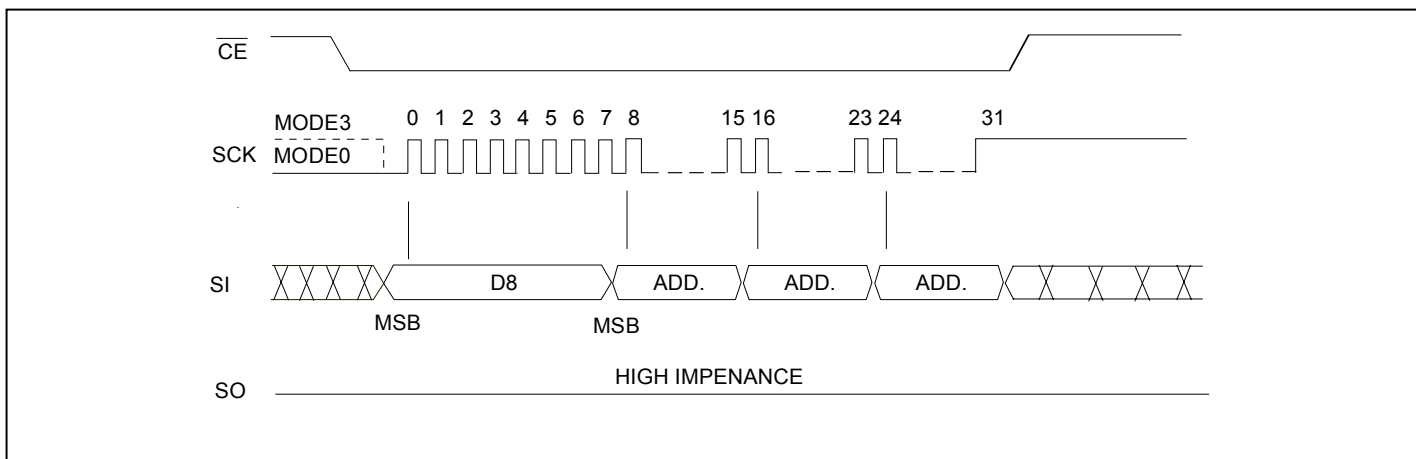

Figure 9: 64K-byte Block Erase Sequence
-A₀]. Address bits [A_{MS}-A₁₆] (A_{MS} = Most Significant address) are used to determine the block address (BA_x), remaining address bits can be V_{IL} or V_{IH}. \overline{CE} must be driven high before the instruction is executed. The user may poll the BUSY bit in the Software Status Register or wait T_{BE} for the completion of the internal self-timed Block Erase cycle. See Figure 9 for 64K Byte Block Erase sequence.